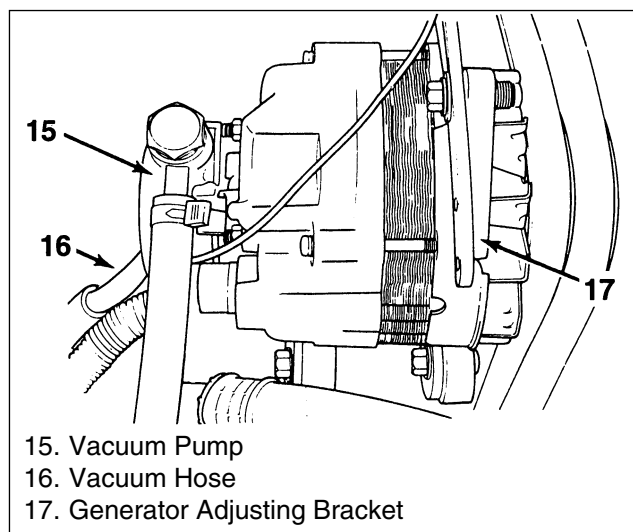

Figure 6. Vacuum Hose Attachment at Vacuum Pump
18. Vacuum hoses (16) at the vacuum pump (15) (figure 6).
19. Generator adjusting bracket (17) (figure 6).
15. Generator adjusting bracket (17) (figure 6).
17. Vacuum hose (16) to the vacuum pump (15) (figure 6).